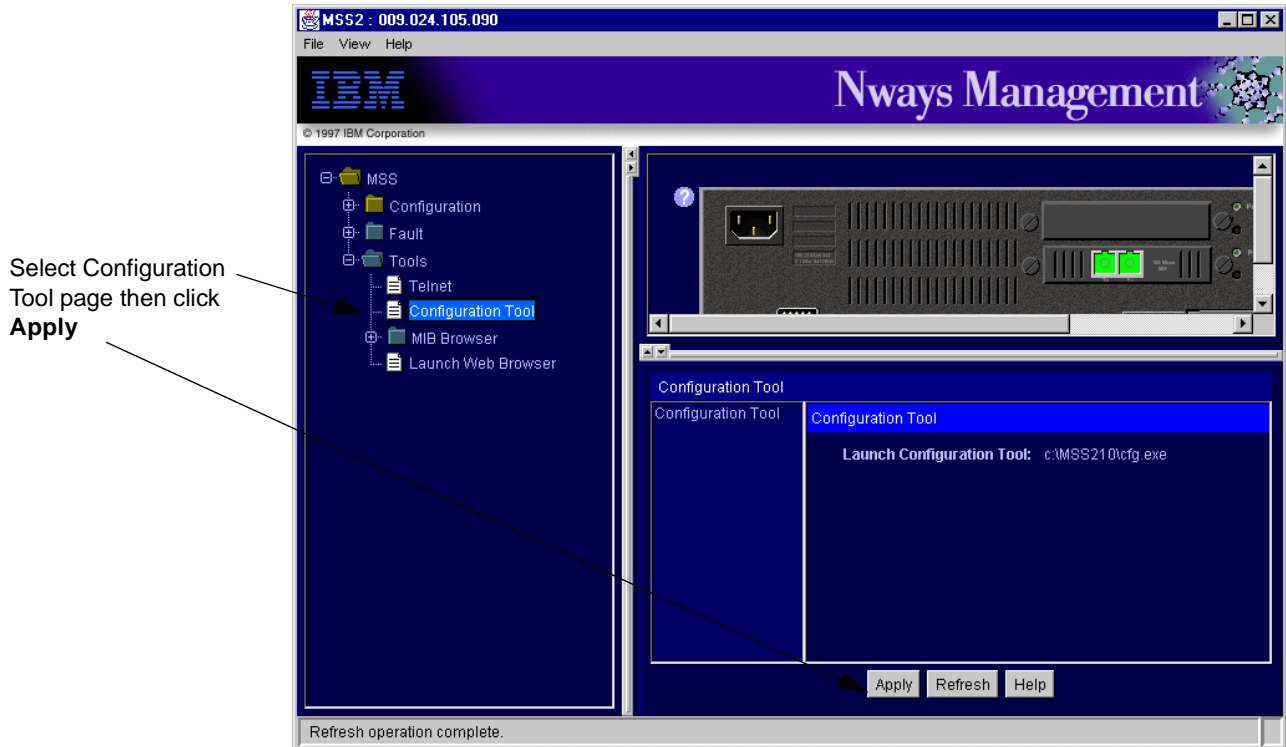

Figure 322. Starting MSS Configuration Program from 8210 JMA
- Clicking on **Apply** (see Figure 322 on page 334).